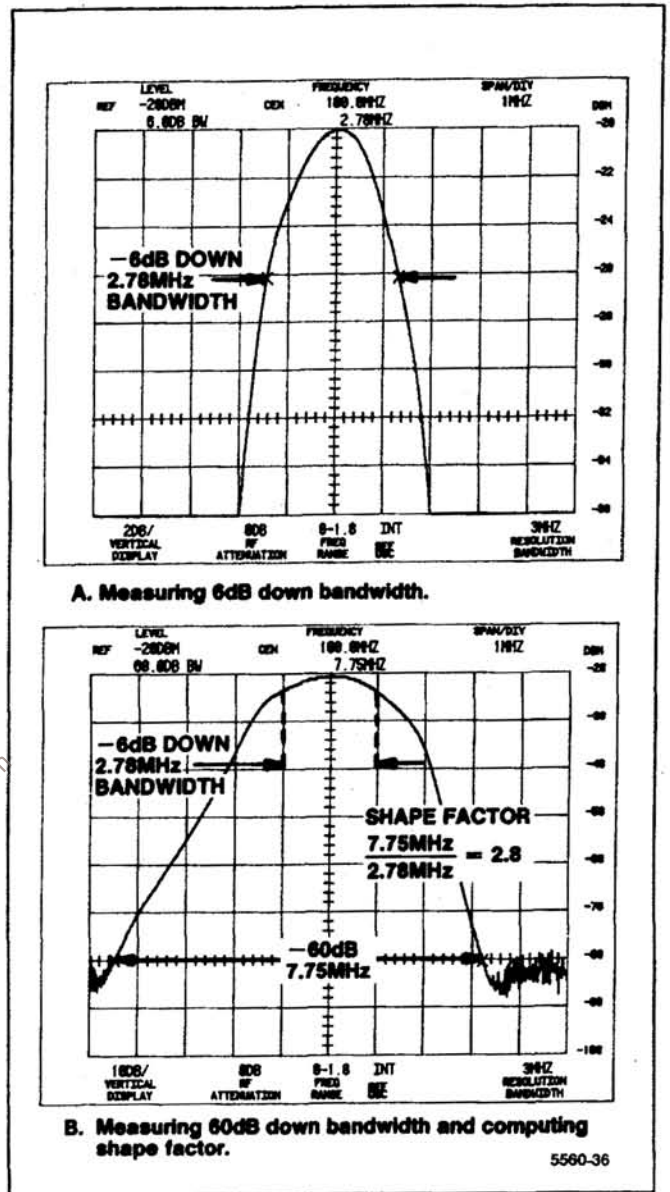

Figure 4-9. Typical display for measuring bandwidth and shape factor.
- d. Check that the shape factor is 7.5:1 or less. The shape factor is the ratio of -60 dB/-6 dB bandwidths (see Figure 4-9).